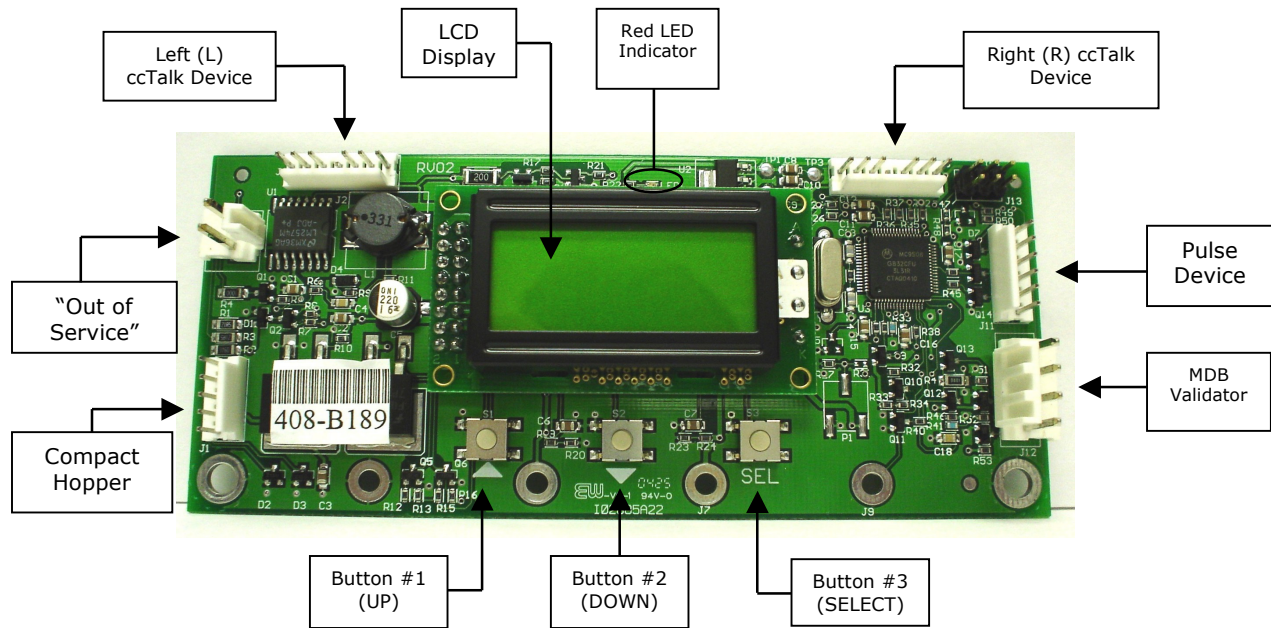

Figure 1 – Main Logic Board
Power-ON the changer, and allow it to run through its start-up procedure, which may take up to a minute or more. During this time, you will hear the validator motors cycling. This is normal. After waiting the allotted time, the changer will be in its Standby state, ready to accept bills or coins. In this state, the MLB display's backlight will be on continuously, and the screen will display the current count of total dollars changed by the machine. Additionally, the board's red LED will blink once per second to indicate that the unit is getting power and functioning normally. (See Figure 1.)
Your changer comes preset with default operational settings that are easily reprogrammed to meet your desired application. Programming is done using the three buttons and LCD display located on the Main Logic Board as an interface. (See Figure 1.)
ccTalk: Select this option if using one or more hoppers with a ccTalk serial interface to the Main Logic Board (MLB). Once selected, enter the number of ccTalk hoppers – one or two – to be used in the changer. *Note: Each Logic Board has the capacity to control two ccTalk hoppers, left and right; but, if only one is used, it must be plugged into the left-side connector (see Figure 1 for the ccTalk device connections on the MLB). Further Note: If your model changer has two Logic Boards and two hoppers, then only one hopper will be controlled by each board; select '1' as the number of ccTalk hoppers on both boards.*
ccTalk: This option should be selected if the installed coin acceptor communicates with the Main Logic Board using ccTalk serial communication protocol (see Figure 1 for the ccTalk device connections on the MLB; contact the coin acceptor's manufacturer or American Changer if help is needed). After choosing ccTalk, the program prompts for specification of the currency type that will be processed by the coin acceptor. Choose either US or Canadian coins.
Pulse: If the installed coin acceptor communicates with the Logic Board using pulse protocol, select 'Pulse' (the Condor Plus uses Pulse communication). Following this, the program will request specification of the logic level used to enable the coin acceptor, high (Hi) or low (Lo) (for the Condor Plus, select high). ***Note:*** *The Logic Board can only control one pulse device; if a pulse validator is installed, a pulse coin acceptor cannot be* (see Figure 1 for the pulse device connection on the MLB).
MDB: Select 'MDB,' and then enter how many MDB validators are installed in the changer – either one (1) or zero (None!). (See Figure 1 for the MDB validator connection on the Main Logic Board.)
Pulse: Select 'Pulse,' and then choose either one (1) or zero (None!) to specify the number of pulse validators that are inside the unit. If '1' is chosen, then the program will further prompt for whether the validator is enabled using a logic-high (Hi) or a logic-low (Lo) signal; either must be chosen. ***Note:*** *The Logic Board can only control one pulse device; if a pulse coin acceptor is installed, a pulse validator cannot be.* (See Figure 1 for the pulse device connection on the MLB.)